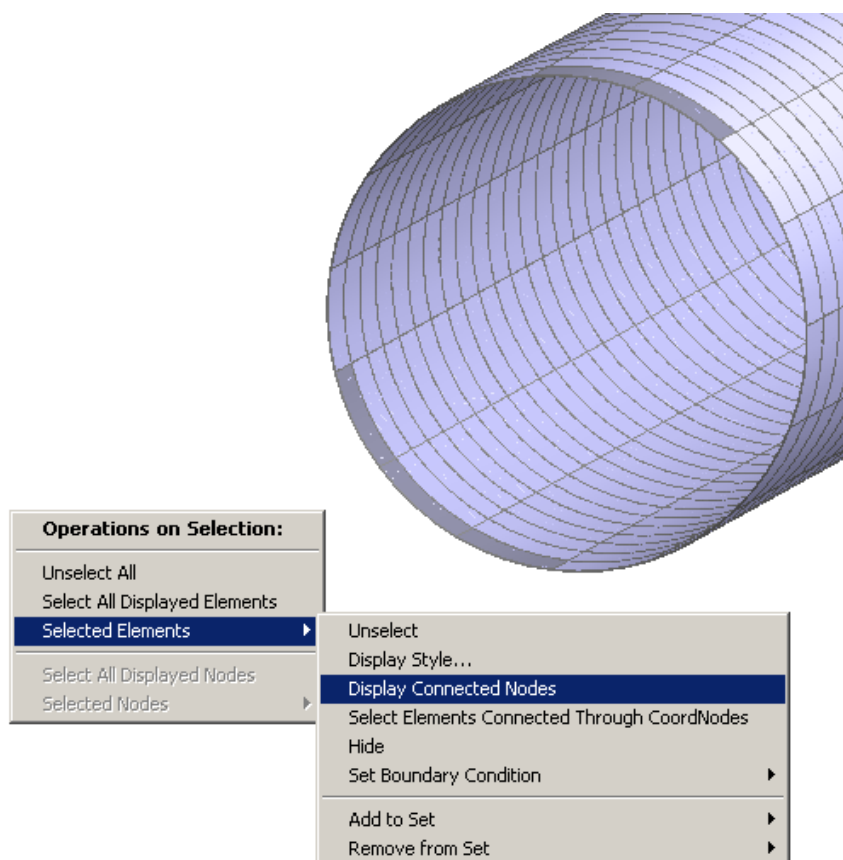

Figure 5.29 Display Connected Nodes for Selected Elements.
- To display coordinate nodes of selected elements, right-click with *shift-key* held down and select: **Operations on Selection** → **Selected Elements** → **Display Connected Nodes**. (Figure 5.29)